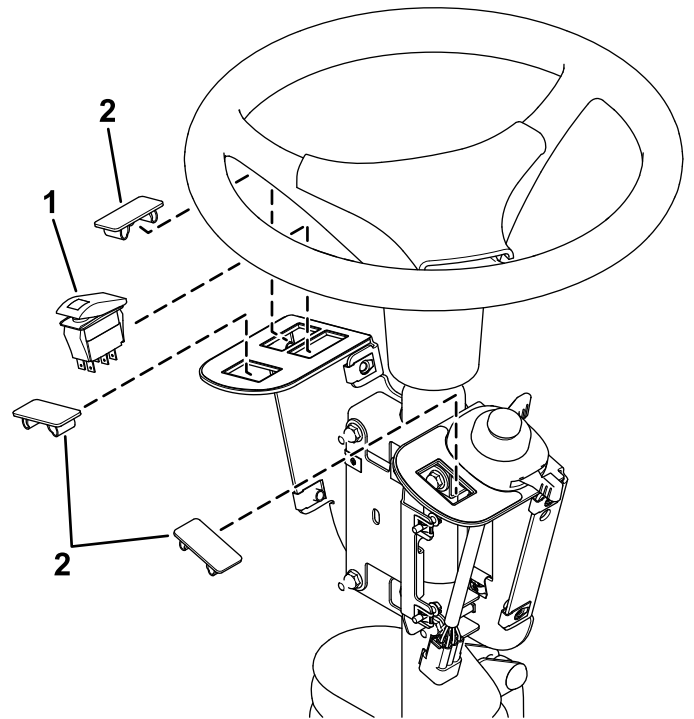

Figure 6
3. Install the rocker switch and hole plugs into the switch mount (Figure 6).